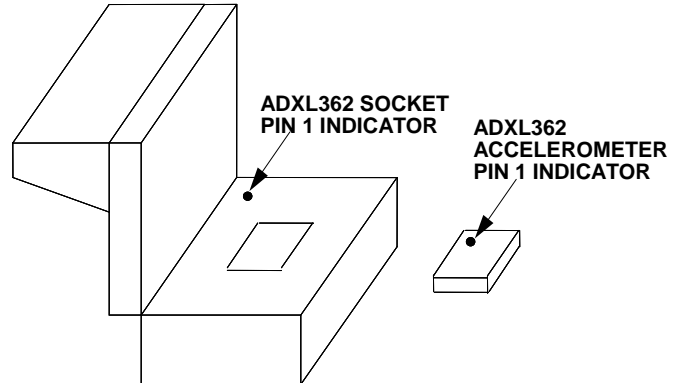

Figure 14. Location of Pin 1 Indicators for the ADXL362 Accelerometer and Socket
1. Place the ADXL362 accelerometer into the socket on the satellite board. The Socket Pin 1 Indicator is located inside the socket close to the hinge, as shown in Figure 14. This pin indicator should match up with the Pin 1 Indicator on the ADXL362.